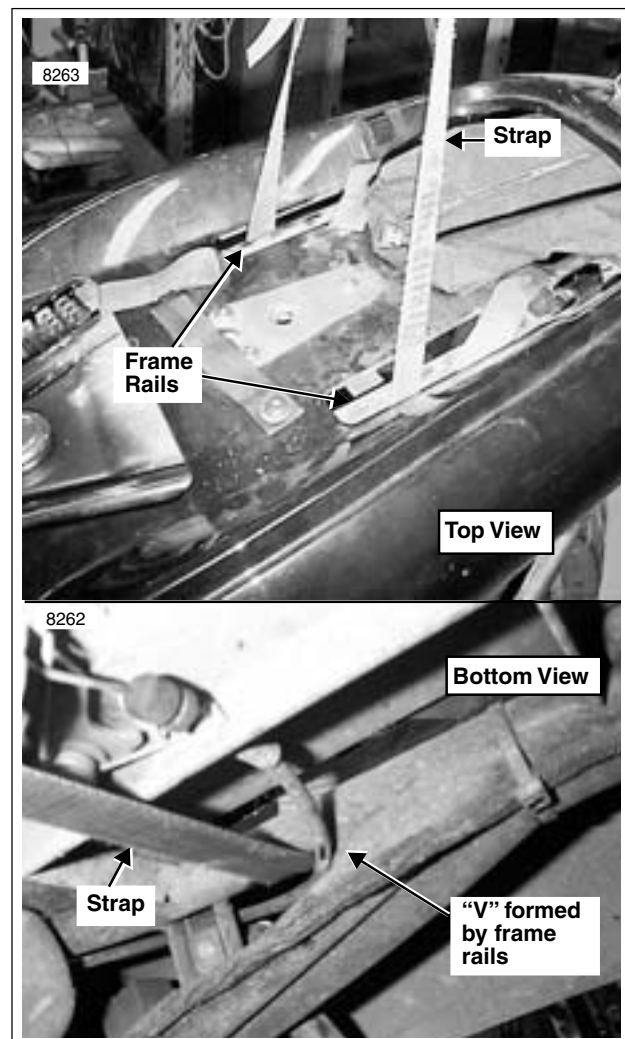

Figure 2-77. Floor Hoist
See Figure 2-77. Route strap under frame rails with tail section installed. Make sure strap is in "V" formed by frame rails to prevent rearward movement and that it does not pinch wiring harness, vent lines or cables.
6. See Figure 2-77. Strap tail section of frame to overhead beam or hoist and put slight tension on strap to secure frame assembly.